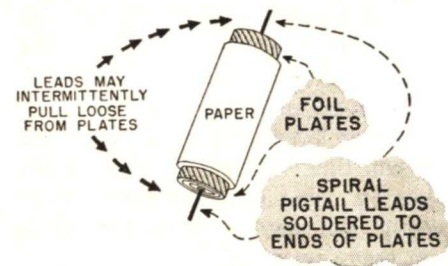

FIG. 9. Paper condensers are a common source of intermittent reception.
**Paper Condensers.** The internal construction of a paper condenser is shown in Fig. 9. The leads of the condenser are ordinary bare wires whose ends have been curled into a loop. The loop is soldered to the foil if tinfoil is used. With aluminum foil, the loop is filled with solder, making a solder disc, and then pressed into the soft face of the exposed foil to give an electrical contact. The foil may be crimped around the solder disc. Both ends of the condenser are then dipped in a wax which, on hardening, holds the discs in contact with the foil plates. When we say that a condenser has opened, we mean that one of the discs has pulled away from its foil plate. The effect is the same as if the condenser lead were cut or a resistance were inserted between the disc and the condenser plate.